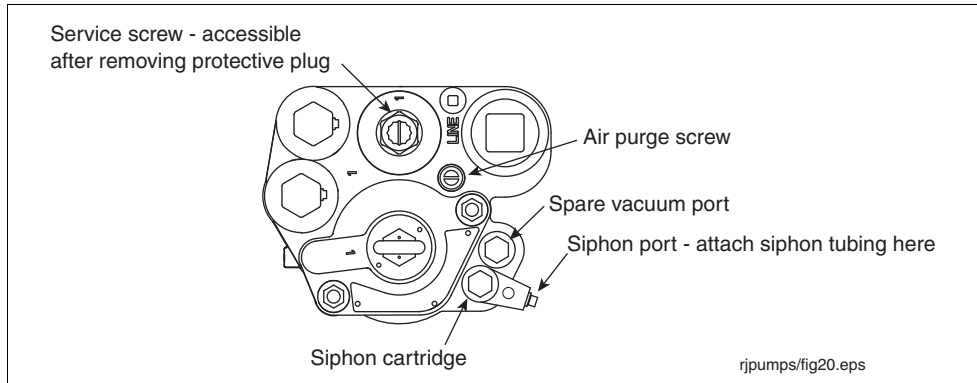

Figure 20. Siphon Ports
2. Remove and save the protective plug over the service screw and turn the screw clockwise (see Figure 20). As the screw approaches its bottom position, you will hear the system depressurizing. Continue turning the screw until it can go no further. When the screw is all the way down, backoff the screw 4 turns to lift the check valve and let the fuel drain out of the manifold's hydraulic cavities.
3. Remove one of the two siphon port plugs from the manifold (see Figure 20).
- Turn the air purge screw 2 - 3 turns counterclockwise (see Figure 20).